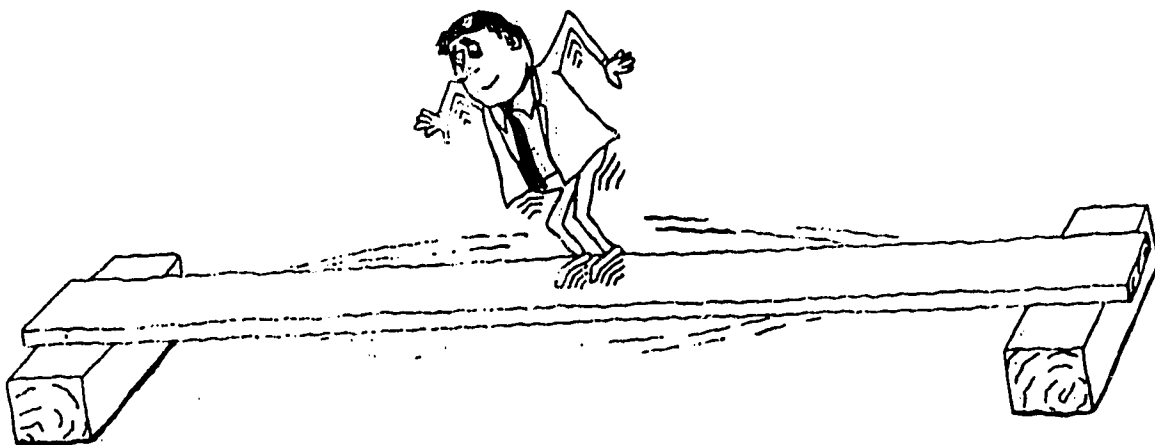

Figure 12. Testing a Scaffold Board
3. Test scaffold boards before using by jumping on them, as shown in figure 12.